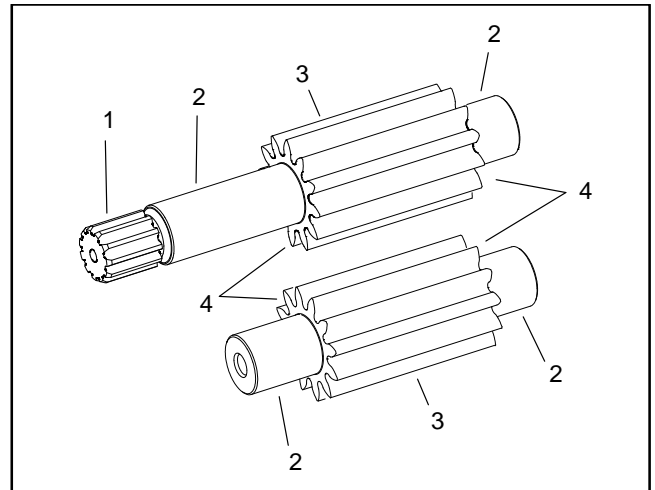

Figure 65
3. Inspect drive gears and idler gears for the following (Fig. 65):